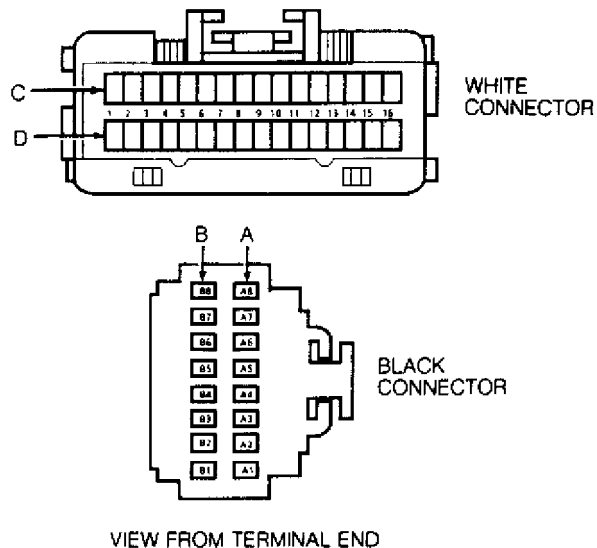

Fig. 3: Identifying IPC Harness Connector Terminals
13) Measure voltage between IPC connector terminal C8 and ground. See Fig. 3. If voltage is less than 10 volts, repair open or short to ground in Purple wire between IPC and fuel sending unit harness connector terminal "E". If voltage is 10 volts or greater, check terminal contact. If contact is okay, replace IPC. See INSTRUMENT PANEL CLUSTER under REMOVAL & INSTALLATION.
5) Using DVOM with negative probe connected to ground, backprobe IPC White connector terminal C4 while wheels are turning. See Fig. 3. If voltage varies with speed, check connections at IPC terminal C4. If connections are good, replace IPC. See INSTRUMENT PANEL CLUSTER under REMOVAL & INSTALLATION.
7) Turn engine off. Turn ignition on. Disconnect PCM connector C2. Using DVOM with negative probe connected to ground, backprobe IPC connector terminal C4. See Fig. 3. If DVOM reading is now system voltage, replace PCM. If DVOM reading is zero volts, turn ignition off. Disconnect IPC connector. Ensure PCM connector is still disconnected.
8) Using DVOM, measure resistance between IPC connector terminal C4 and ground. See Fig. 3. If resistance is less than 1000 ohms, repair short to ground in Brown wire. If resistance is 1000 ohms or more, check connections at IPC terminal C4. If connections are good, replace IPC. See INSTRUMENT PANEL CLUSTER under REMOVAL & INSTALLATION.
3) Check IPC connector terminal B1 for proper terminal contact. See Fig. 3. If terminal contact is okay, replace IPC. See INSTRUMENT PANEL CLUSTER under REMOVAL & INSTALLATION.
1) Remove instrument panel top cover to access cluster connectors. See INSTRUMENT PANEL TOP COVER under REMOVAL & INSTALLATION. Using DVOM with negative probe connected to ground, backprobe IPC connector terminals No. A1, A2, C12, and C14 for 10 volts or more. See Fig. 3.
resistance to ground at terminals A5 and C16. See Fig. 3. If resistance reading for either terminal is greater than 2 ohms, repair open in that circuit. If resistance reading for both is less than 2 ohms, go to next step.